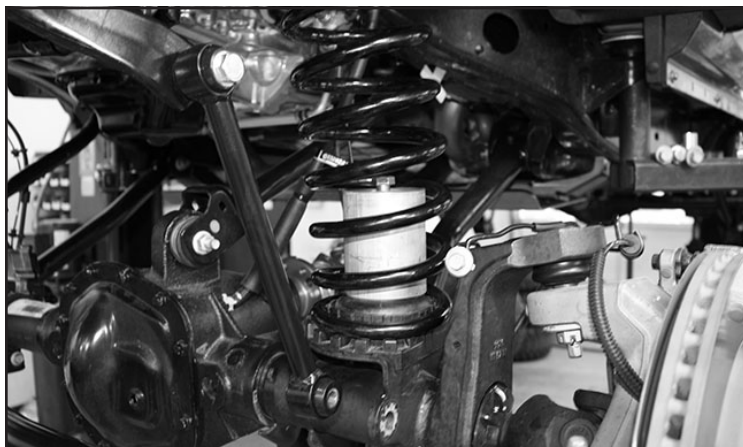

FIGURE 19 - STEP 20
20. Install FT50048 (Bushings) and FT404739 (Sleeves) into FT50026BK (Sway bar links). Then, install the links to the axle mount and sway bar using the supplied M12 x 70mm M14 hardware (2024 Models) for the upper location and the factory for the lower. Torque to 100 ft-lbs. **SEE FIGURE 19**